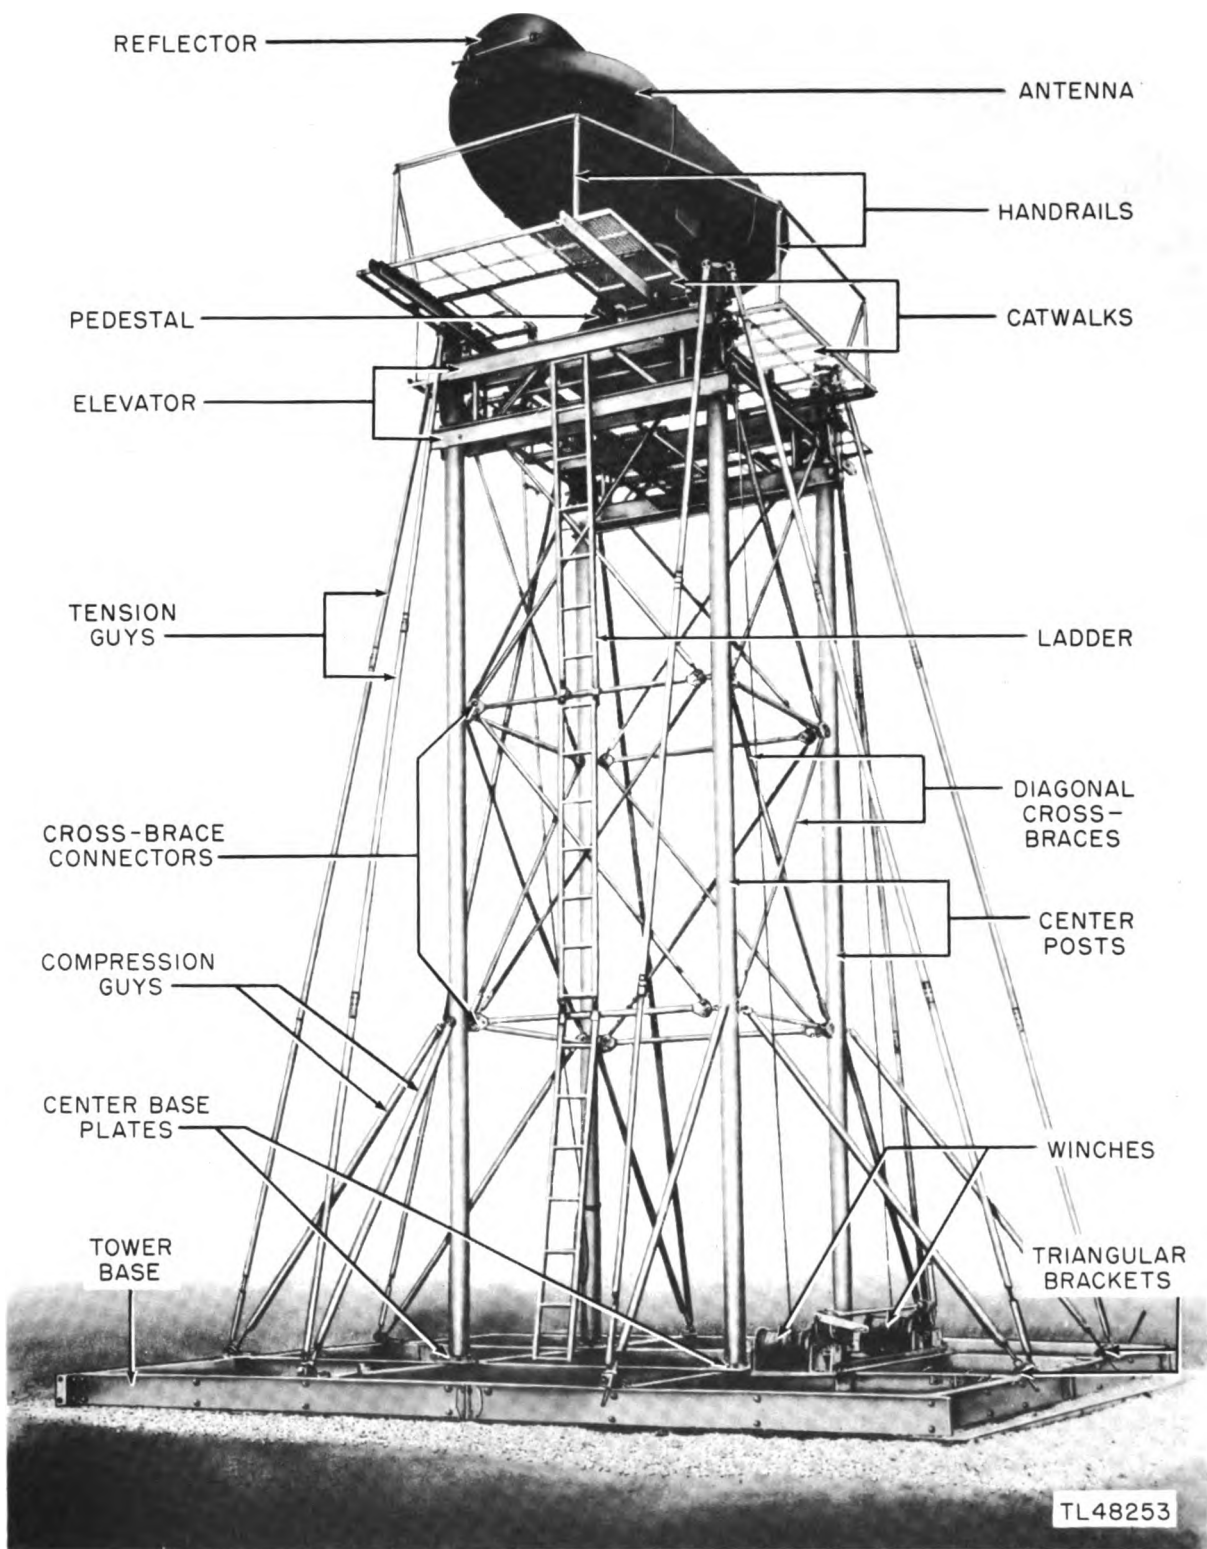

Figure 4-62. Tower.
b. Maintenance Procedure (figs. 4-62 through 4-65).
(1) The tower for signs of settling. If this condition is encountered, notify the person in charge.
(2) The tower base for inadequate support.
(3) The assembly bolts, screws, and nuts for looseness and damage. Check the bolts which fasten the center posts to the balls on the center base plate, the eyebolts, and the cross-brace connectors.
(4) The tension guys and the diagonal cross braces for looseness. When necessary, tighten the turnbuckles.
(5) The compression guys for looseness. The compression guys are tightened by tightening the nut on the triangular bracket.
(6) The winches for insecure mounting, damaged gears, defective ratchet, excess oil, and corrosion. If parts are damaged or defective, notify the person in charge.
(7) The cable anchor for looseness and